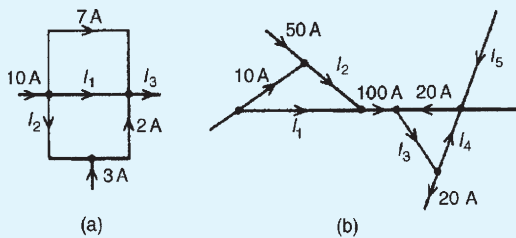

Figure 13.12
- For the networks shown in Fig. 13.12, find the values of the currents marked.